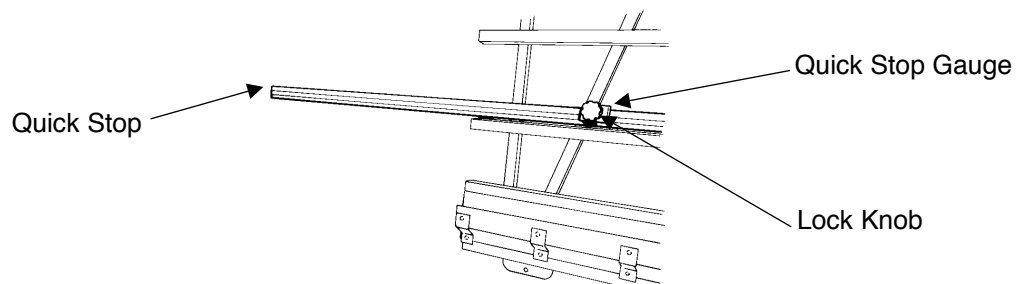

Figure 16. Quick Stop installed
- Measure from the blade and adjust Quick Stop measuring tape by sliding it in the extrusion (Fig. 16). Adjust tape by grabbing extrusion with both hands and sliding tape with thumbs.
- Position Quick Stop Block at the desired cut length, as indicated by the Quick Stop measuring tape, and secure by tightening the Lock Knob (Fig. 16).